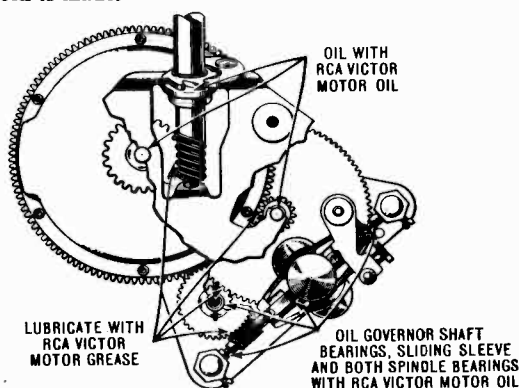

Figure 1—Lubrication Diagram of Model 2-25
**Motor.** Figure 1 shows a view of the motor with the top plate removed. Before lubricating the parts shown in this illustration, a thorough cleaning with carbon tetrachloride (Carbona) or gasoline is necessary. If necessary disassemble the entire motor for such cleaning.